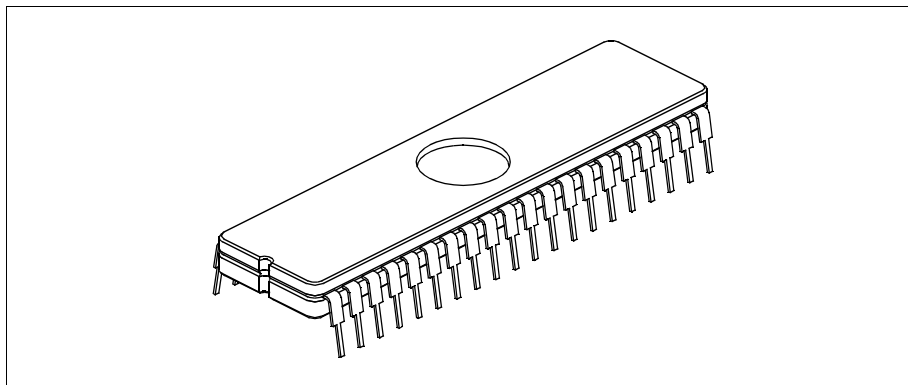

Figure 2.2: Windowed Device
- Remove any labels covering the device window. If you do not have a windowed device (Figure 2.2), you cannot reprogram it. A windowed version of all EPROM devices may be ordered by requesting the JW package.
- Place the device in an Ultraviolet (UV) EPROM Eraser. The amount of time required to completely erase a UV erasable device depends on: the wavelength of the light, its intensity, distance from UV source, and the process technology of the device (how small are the memory cells).